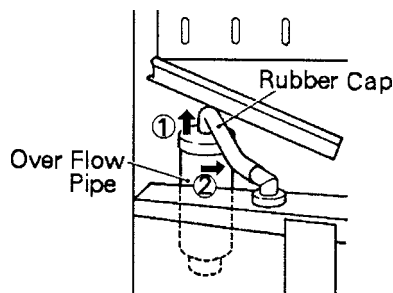

Fig. 11
- 7) Remove the Rubber Cap covering the Overflow Pipe in the Water Tank. Remove the Overflow Pipe by turning it counterclockwise. Drain the Water Tank. See Fig. 11.
- 4) Remove the Rubber Cap covering the Overflow Pipe in the Water Tank. Remove the Overflow Pipe by turning it counterclockwise. Drain the Water Tank. See Fig.11.
- 5) Remove the Rubber Cap covering the Overflow Pipe in the Water Tank. Remove the Overflow Pipe by turning it counterclockwise. Drain the Water Tank. See Fig. 11.